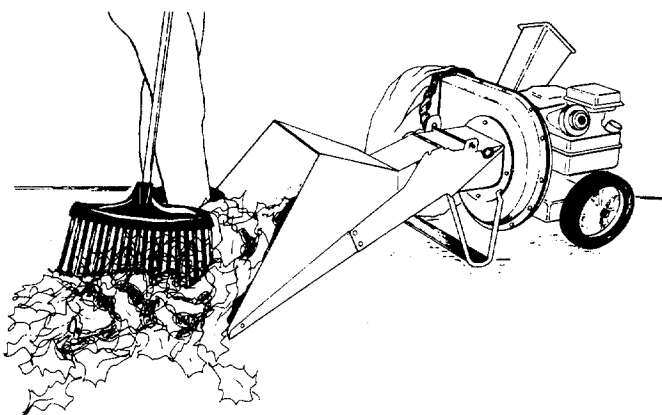

FIGURE 9.
2. Leaves and small twigs can be raked into the shredder when the hopper assembly is lowered to the ground. See figure 9.